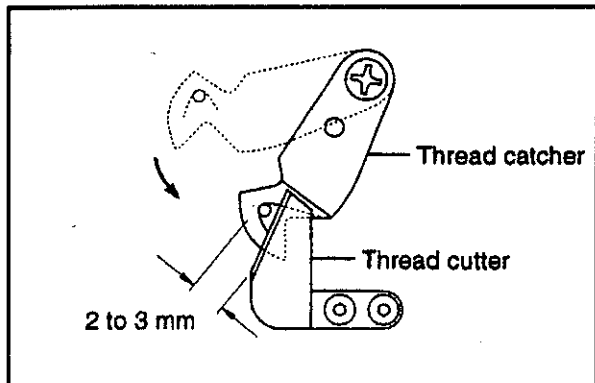

FIG.4
- (2) Check the blade pressure of the thread catcher and the thread cutter (Fig.4). (Refer to "3-6 Blade pressure" on page 28).